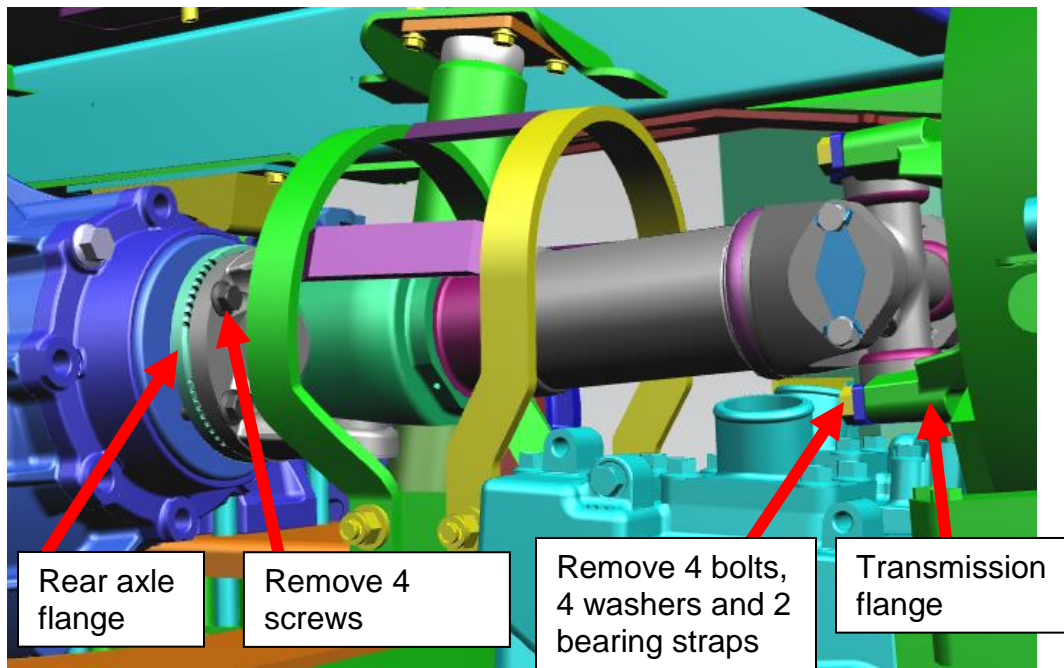

Figure 15: Original driveshaft
4. Remove hardware that fastens the driveshaft yokes to the transmission and the rear axle. Rotate pinion for better visibility of hardware on driveshaft. See figure 15.